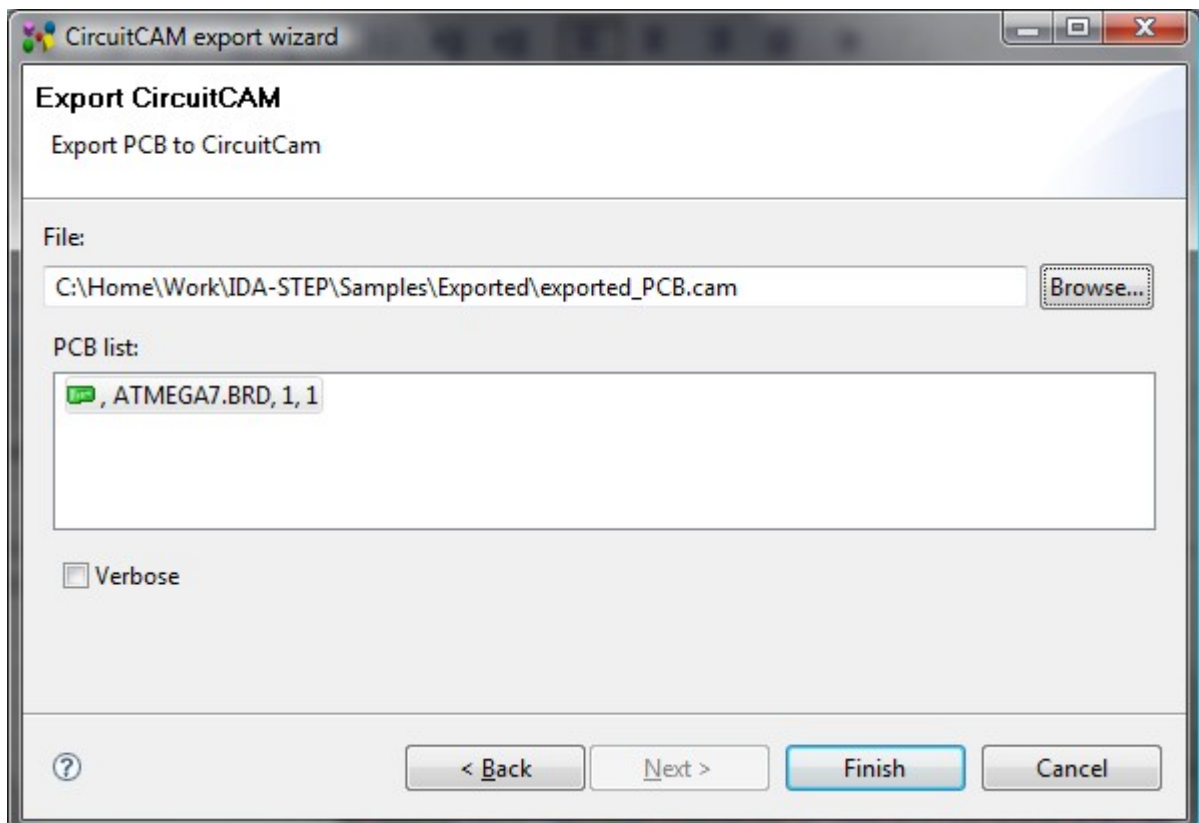

Figure 2. Export CircuitCAM wizard page
- The **Export CircuitCAM** wizard page appears to make selections (see Figure 2):